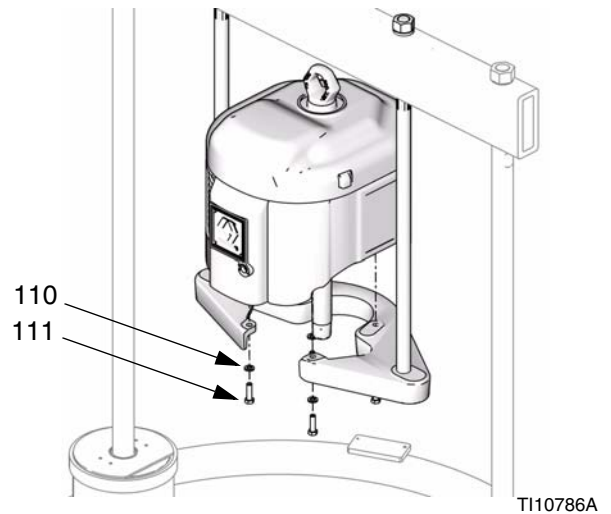

FIG. 25
- b. For NXT with smaller platen (D200 3 in. and D200s 6.5 in. supply units): Remove screws (111) and washers (110) securing motor to mounting plate. See FIG. 25.
2. Position mounting plate (109) to ensure top of motor will clear the crossbar. See FIG. 25. Using a capable hoist, attach motor to mounting plate (109) using screws (111) and washers (110).